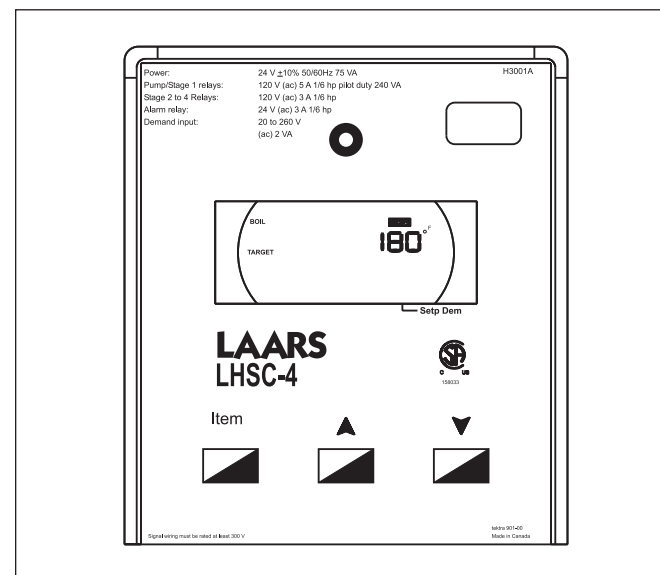

Figure 25. Temperature Control.
There are three black programming buttons on the Temperature Control (see Figure 25). Press and hold all three programming buttons until the word **ADJUST** appears in the upper right corner of the LCD display (it replaces the word **VIEW**).
The control also evaluates the sensor(s) installed in the system. If the control is not in warm weather shutdown (WWSD), and the sensor(s) are below the target temperature, the “Dem” segment is turned on in the display. The control energizes the pump (on pump mounted boilers) and energizes both “PMP” terminals. The pump symbol appears in the display (see Figures 25 and 26). The control then operates the stages to maintain the setpoint temperature.
Step 2: Press the three programming buttons to enter ADJUST mode (Figure 25). Press ITEM to select the programming item, and the arrow keys to adjust the setting. TARGET TANK is desired tank temperature. Recommended settings with a desired tank temperature of 125°F:
Step 3: Press the three programming buttons to enter ADJUST mode (Figure 25). Press **Item** to select the programming item, and the **ARROW** keys to adjust the setting. See Section 6.3 Programming the Temperature Control if more programming instructions are needed.